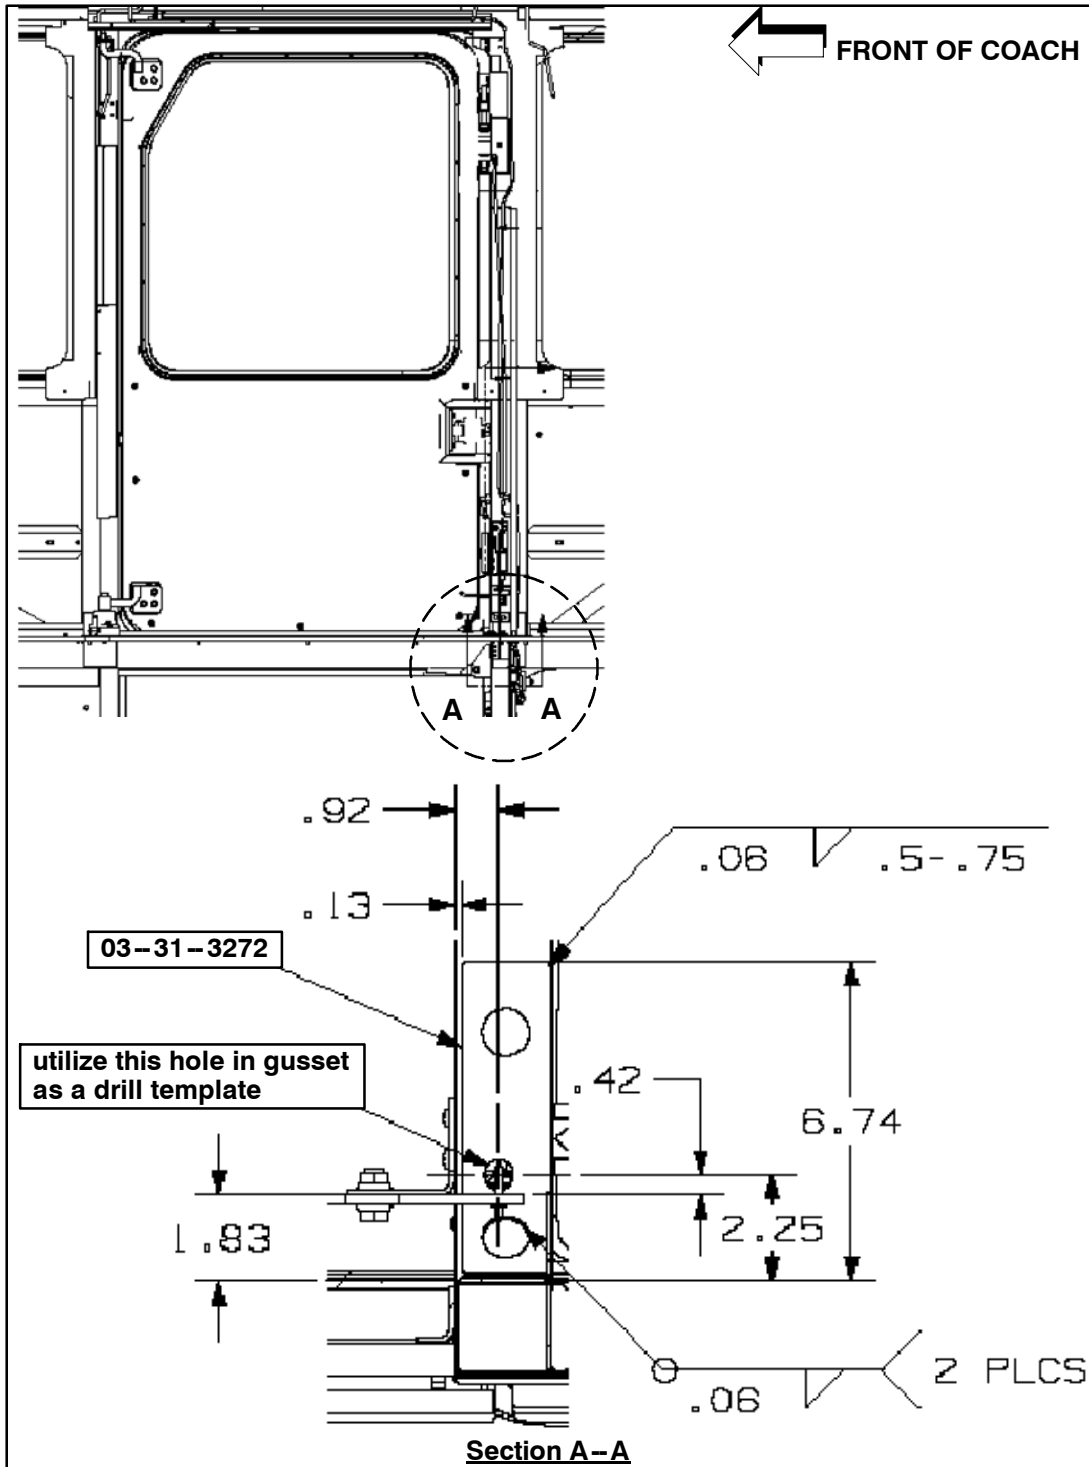
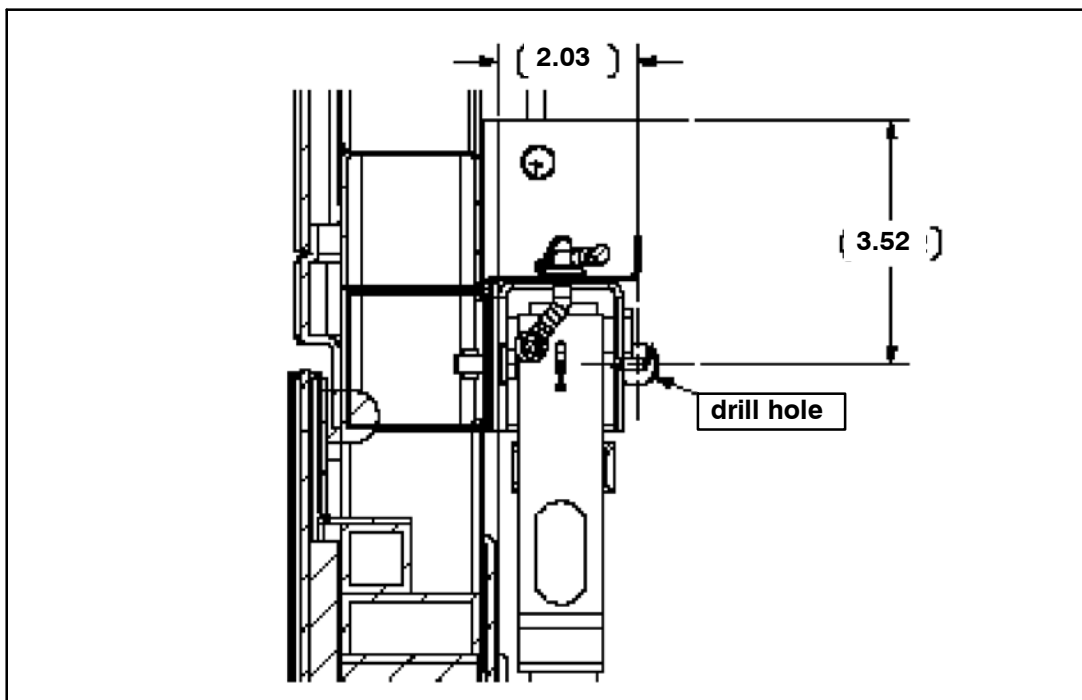

Figure 3. Gusset installation corner (top, rearward corner of the lift access compartment).
Figure 5.
5. Using an industrial heat gun and steel brush, clean to remove all the dirt and loose paint or rust from the installation area (refer to Figures 3 and 4).
6. Tack weld the gusset (p/n 03-31-3272) into position, according to Figure 3.
7. Weld the gusset, using the weld sizes and locations in Figure 3.
- 8. Using a 0.63 inch drill bit and the hole in the gusset as a template, drill a hole up through the tube frame and floor per the dimensions shown in Figure 5 into the coach cabin (refer to Figures 3 and 4 for hole location on gusset).